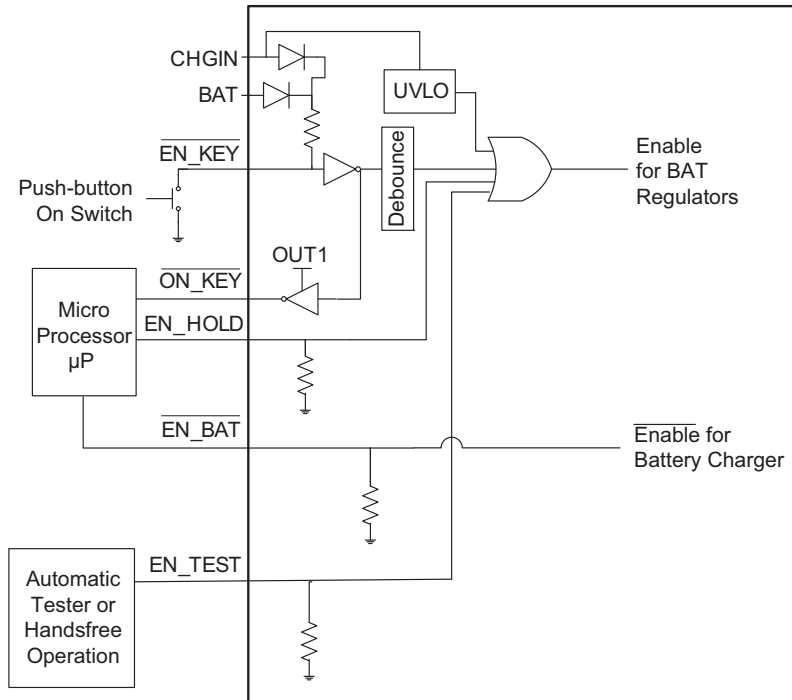

Figure 1: Enable Function Detailed Schematic.
The AAT3603 supports a variety of push-button or enable/disable schemes. A typical startup and shutdown process proceeds as follows (referring to Figures 1 and 2): System startup is initiated whenever one of the following conditions occurs:
The startup sequence for the AAT3603 core (Buck and LDO1) is typically initiated by pulling the EN\_KEY pin low with a pushbutton switch, see Figure 1. The Buck (Core) is the first block to be turned on. When the output of the Buck reaches 90% of its final value, then LDO1 is enabled. When LDO1 (PowerDigital) reaches 90% of its final value, the 65ms RESET timer is initiated holding the microprocessor in reset. When the RESET pin goes High, the  $\mu$ P can begin a power up sequence. After the startup sequence has commenced, LDO2 (PowerAnalog), LDO3 (TCXO), LDO4 (TX) and LDO5 (RX) can be enabled and disabled as desired using their independent enable pins, even while the Buck and LDO1 are still starting up. However, if they are shut down, then LDO2, LDO3, LDO4, and LDO5 cannot be enabled. The  $\mu$ P must pull the EN\_HOLD signal high before the EN\_KEY signal can be released by the push-button. This procedure requires that the push-button be held until the  $\mu$ P assumes control of EN\_HOLD, providing protection against inadvertent momentary assertions of the pushbutton. Once EN\_HOLD is high the startup sequence is complete. If the  $\mu$ P is unable to complete its power-up routine successfully before the user lets go of the push-button, the AAT3603 will automatically shut itself down. (EN\_KEY and EN\_HOLD are OR'd internally to enable the two core converters.)